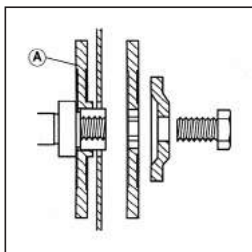

FIG. 1
- Install blade flange 'A' on the inner side when the arbor hole in the cutting disc is $\varnothing 22.2\text{mm}$ ($\varnothing 7/8"$). (**FIG. 1**)